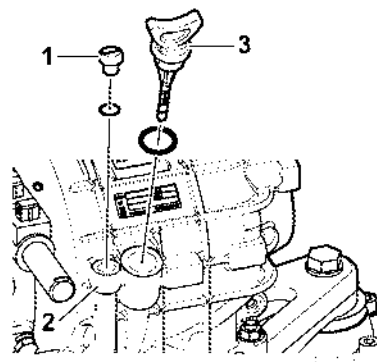
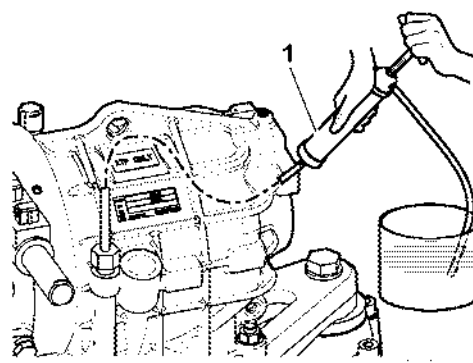

Figure 9
Figure 10
1. Oil change must be done removing the plug (1, **Figure 9**) from the oil suction pipe (2, **Figure 9**). Suction can be done with hand pump (1, **Figure 10**).
2. Push the hose of hand pump (1, **Figure 10**) through the suction pipe (2, **Figure 9**) and suck the fluid off.
3. Un-screw the oil dipstick (3, **Figure 9**).
5. Screw in the oil dipstick (3, **Figure 9**).